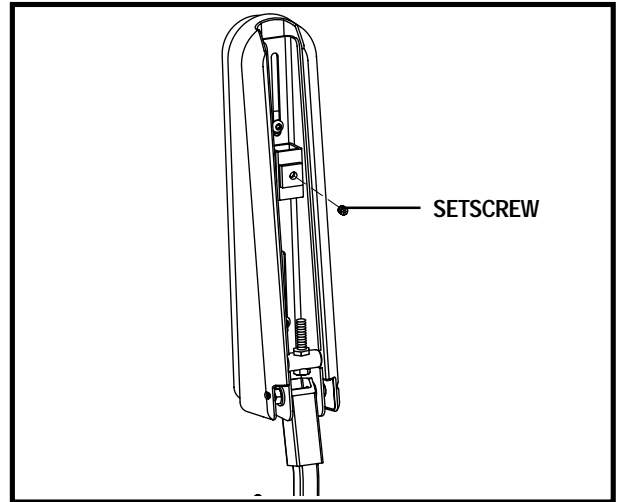

Figure 25. Underside of Armrest
2. Loosen the setscrew on the controller bracket. See figure 25.
4. Flip up the armrests and loosen the setscrews. See figure 25.